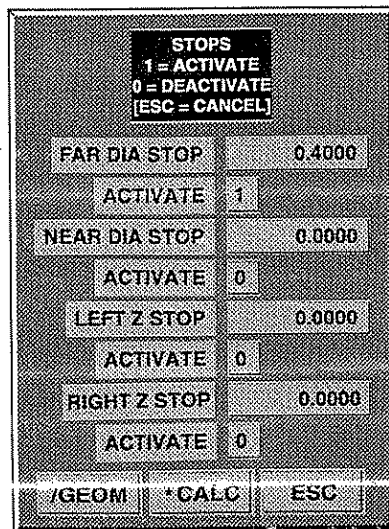

Figure 3-7
- 6) Press **[F3]** **STOPS**. A screen will appear as in Figure 3-7.